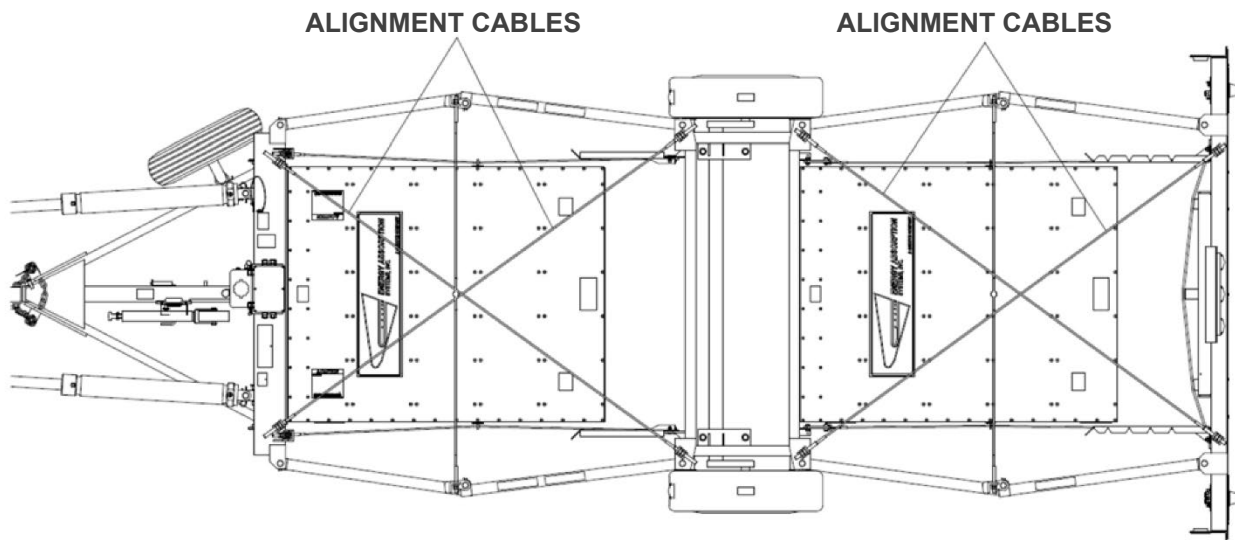

Figure 41
There are four (4) Alignment Cables (two for each bay). Reattach the Alignment Cables as shown in Figure 41. Measure the diagonals of each bay and adjust the cables so that the diagonal measurements in each bay are the same ($A=B \pm 3/16"$ [5 mm], $C=D \pm 3/16"$ [5 mm]). Lock each cable in place using the second nut as a "jam" nut.